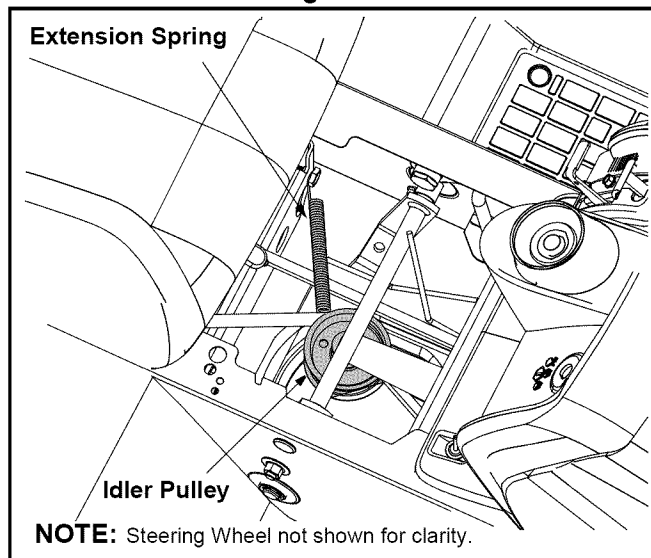

Figure 33
- Remove the cover panel and locate the idler pulley and extension spring. See Figure 33.